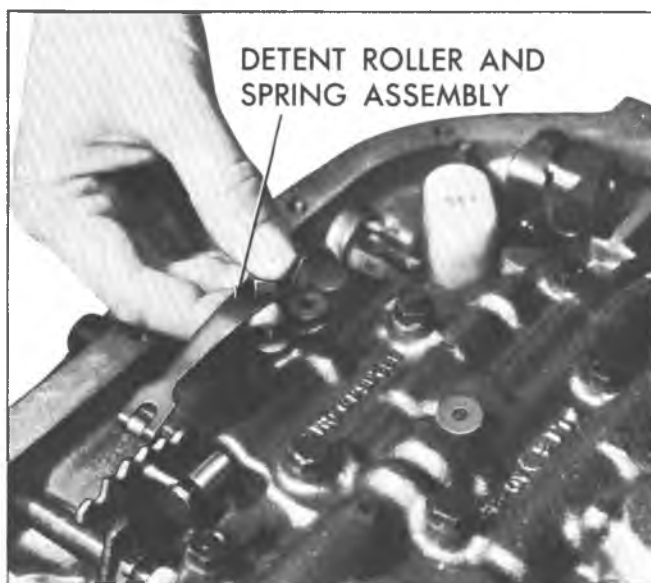

Fig. 152T--Installing Detent Roller and Spring Assembly
5. Remove guide pins and install detent roller and spring assembly and remaining bolts (fig. 152T).